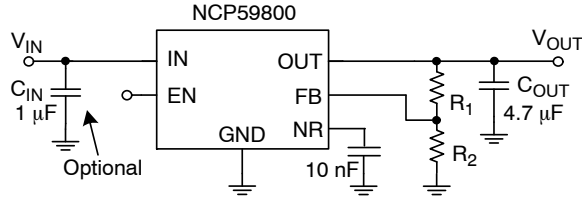

Figure 24. Typical Application Schematics
The NCP59800 regulator is equipped with Noise Reduction pin (NR) for noise sensitive applications. A noise reduction capacitor (C_{NR}) at the NR pin bypasses noise generated by the bandgap reference. This family of regulators offers sub-bandgap output voltages, current limit, and thermal protection, and is fully specified from -40°C to $+125^{\circ}\text{C}$, assuming resistors with zero error. For the actual design, pay attention to any resistor error factors. Figure 24 gives the Typical Application Schematics.